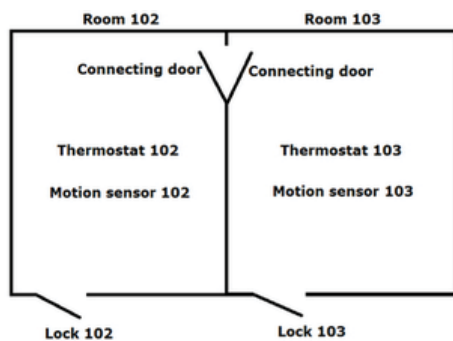

Figure C10
When a suite card is presented at one of the concerned VingCard locks (to either *lock 102* or *lock 103* in the example in *Figure C10*), the thermostat communicates with the other connected room to activate suite mode and share events. The suite will be active and events will be shared between the two thermostats, even if the connecting doors are closed. Upon check-out or if the suite card expires, the thermostat disables event sharing.
The online network for the example in Figure C10 looks as in Figure C12. The two thermostats 102 and 103 must be set up under the same parent in the network, i.e. be set up in the same PAN (*personal area network*). To set up the network, follow the steps below:
1. Choose Initialize in the left pane of the Orion Service window. 2. In this example, the master thermostat is in room 102 (room A in Figure C10). Connect the service cable to the thermostat in room 102. 3. Click the plus sign for the applicable door area (in this example 'Floor 1') and mark room 102.	 Figure C13
4. At Suite settings: - Enter the Suite room (slave room); in this example 103 (room B in Figure C10). - Leave the Share occupancy checkbox empty; this is only applicable when there is just one door to the entire suite; click here for more information about that configuration.	 Figure C14